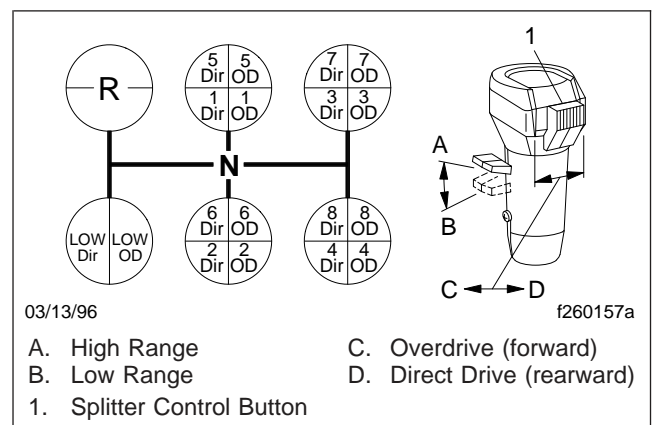

Fig. 13.2, Eaton Fuller 18-Speed Transmission Shift Pattern
2. Position the range-preselection lever down, in low range. See Fig. 13.2.
3. Make sure the splitter-control button is in the low (rearward) position. See Fig. 13.2.
Upshift from LOW overdrive to 1st direct by first moving the splitter-control button into the direct drive (rearward) position (Fig. 13.2). Double-clutch and move the shift knob through neutral to the 1st gear position.